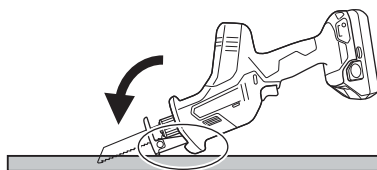

Fig. 25
- (2) Pull lightly on the trigger switch to maintain a low speed as you gradually saw into the material. (Fig. 25).